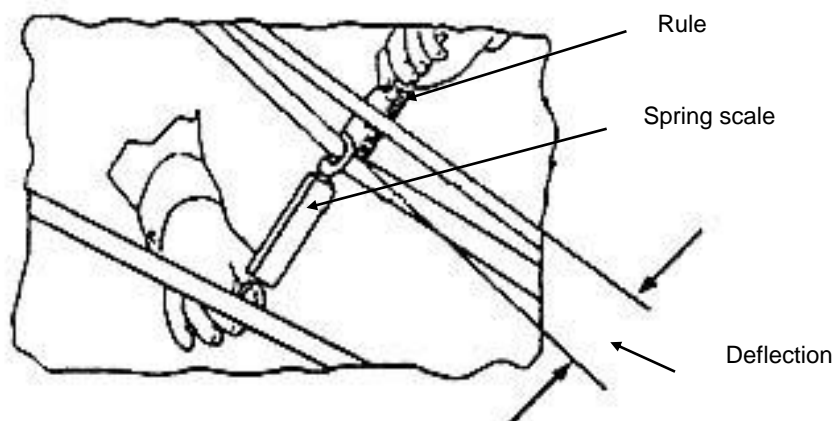

FIG 7.
- E. Measure the deflection of the V-belt with a rule (Fig 7) and compare it with the deflection calculated in “A” above.